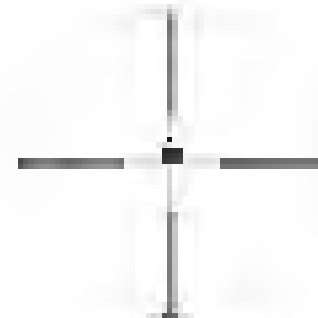

Figure 3-18
2. Using the BORS elevation knob, move the horizontal crosshair either from the top of the reference object to its bottom, or from the bottom of the object to its top as illustrated in Figure 3-18.